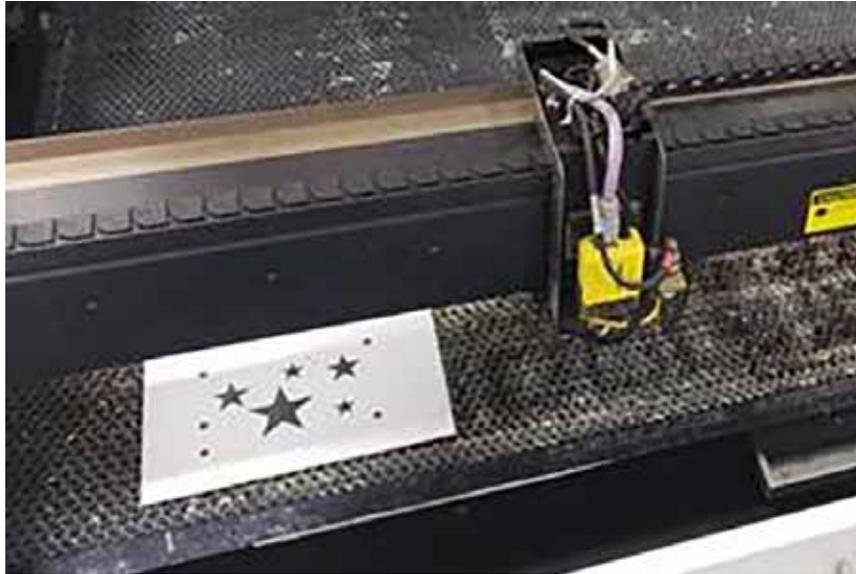

Figure 7-1. Gantry Area
2. Open the top cover and check the gantry area for broken or damaged cables, loose connections and loose screws (see Figure 7-1).